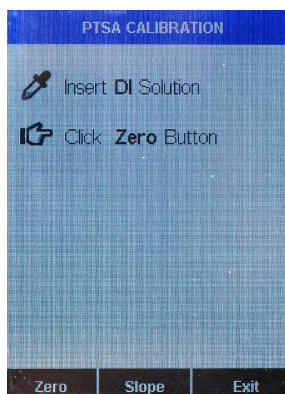

Figure 3.
5. Press **P-Cal** ( or ) to launch the **PTSA CALIBRATION** screen (Figure 3).